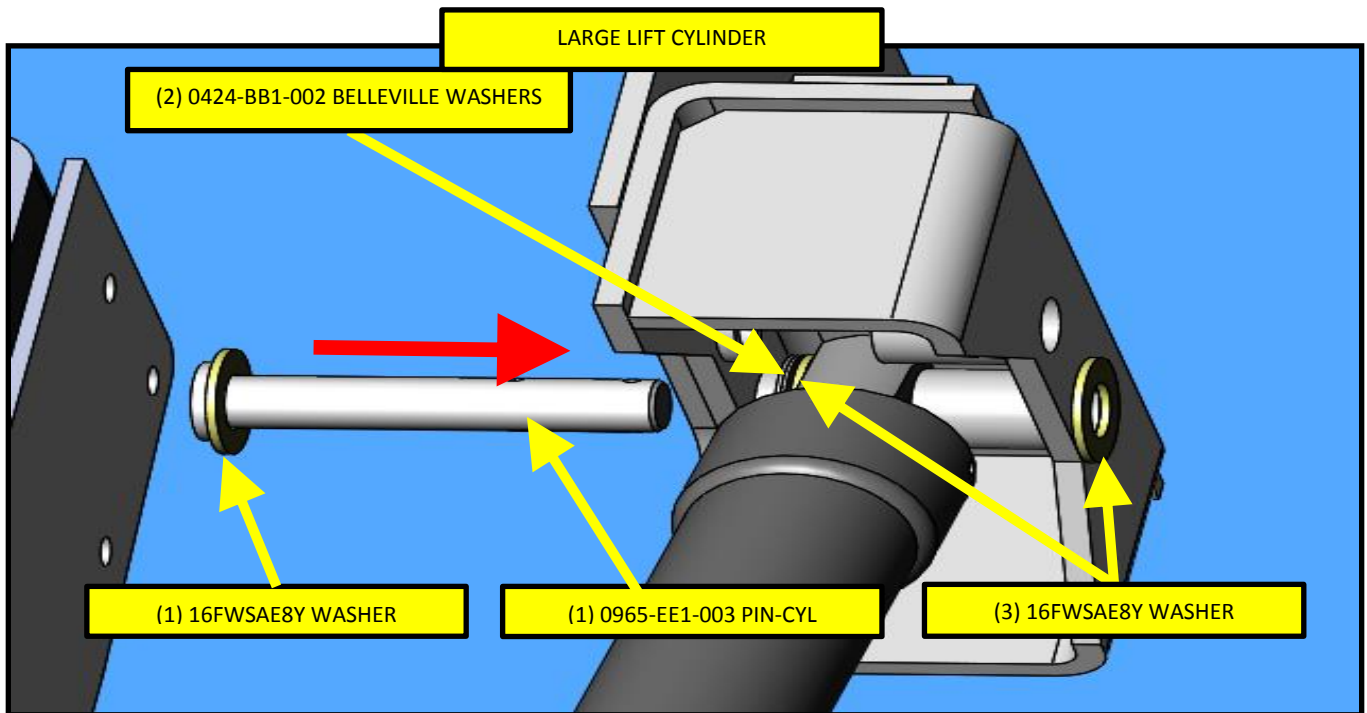

FIG. 18-2
- a. Locate (4) 16FWSAE8Y washers and (2) 0424-BB1-003 Belleville washers, then slide 0965-EE1-003 pin-cylinder anchor into place. Refer to FIG. 18-2.